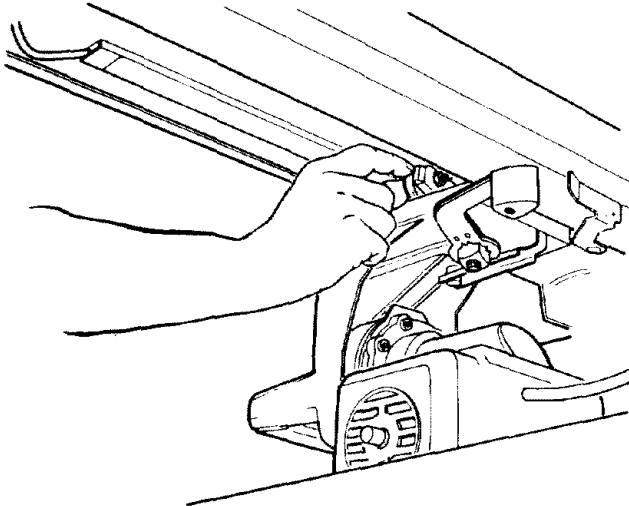

Fig. 154 - Front Carriage Bearings
3. Hold the *front carriage bearing* with your fingers as tight as possible and pull *carriage* forward at the same time. If you can prevent the *bearing* from turning an adjustment is required. (Figure 154)